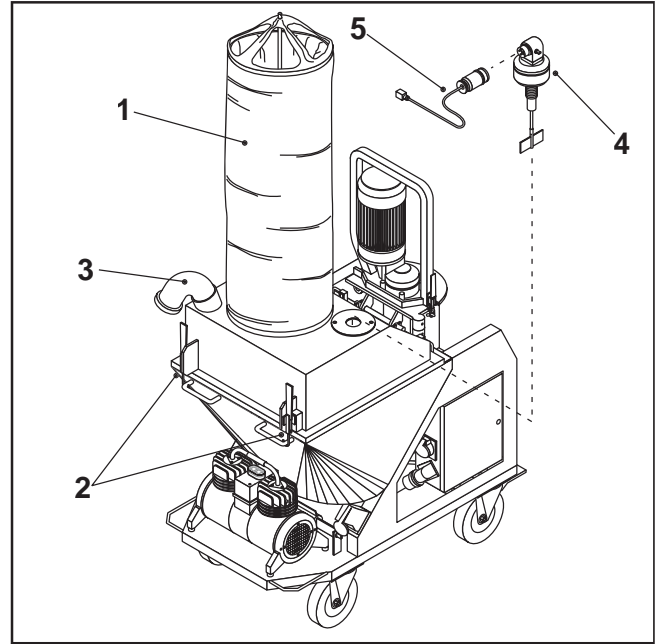

FIG.13
If the dry ready-mixed material is introduced into the hopper automatically by a pneumatic transfer system, an appropriate cover must be used (FIG. 13-REF.1), which is fixed onto the hopper in the following way:
- Position the cover complete with lid as indicated by the drawing and block it with the relevant hooks (FIG. 13-REF.2).
- Connect the pipe that takes the material from the pneumatic plant to the relative connection (FIG. 13-REF.3).
- Insert the mechanical probe (FIG. 13-REF.4) into the relevant housing and connect the power supply cable (FIG. 13-REF.5) to the probe and to the electric control board of the pneumatic transfer plant.